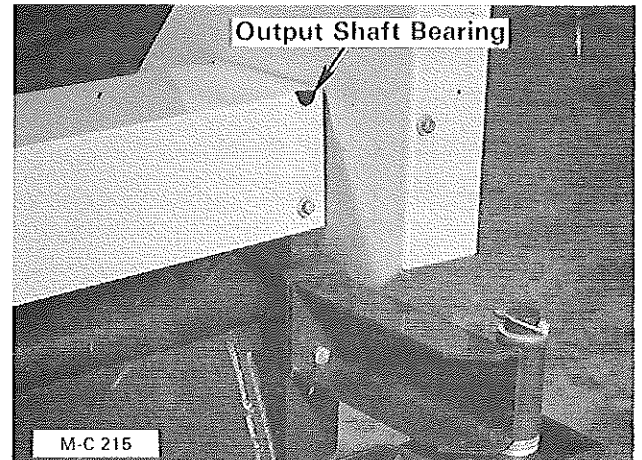

Figure 17
2. Gauge roller bearings (2). One fitting on each end of the gauge roller.
3. Output shaft bearing (1). Reach through hole in output shaft guard, see Figure 17.
4. Output shaft universal joint (1). Located under the output shaft guard.